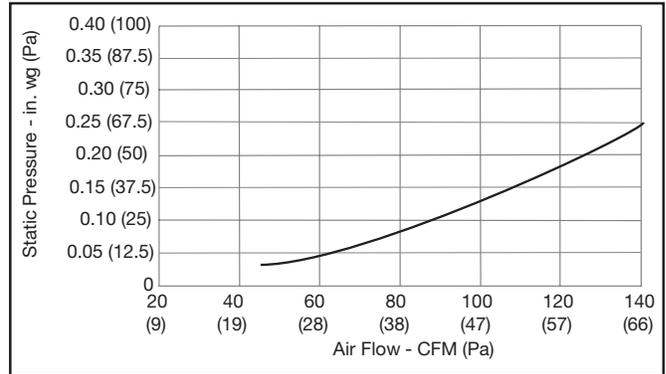

Figure 27. Exhaust Airflow Chart
2. **Pairing with DXPL02 or DXPL03 Deluxe Control:** Press the left and right buttons simultaneously on the control  and RESET buttons. The screen will go blank and the wireless symbol  appear flashing on the bottom right of the display. This indicates that the control is now in pairing mode (Figure 27, Box D).
3. **Pairing with BC02, BC03, or BC04 Basic Controls:** Press the left and right buttons simultaneously on the control buttons. The bottom row of three LEDs will begin flashing. This indicates that the main control is now in pairing mode (Figure 27, Box E).
1. Separate the face plate from the back plate by firmly pulling apart (Figure 27, Box A).
3. Place the back plate of the control in the desired location on the wall and pencil mark the top and bottom screw holes (Figure 27, Boxes B or C). Drill two 1/8" (3 mm) holes.
5. Attach the face plate to the back plate (Figure 27, Box F).